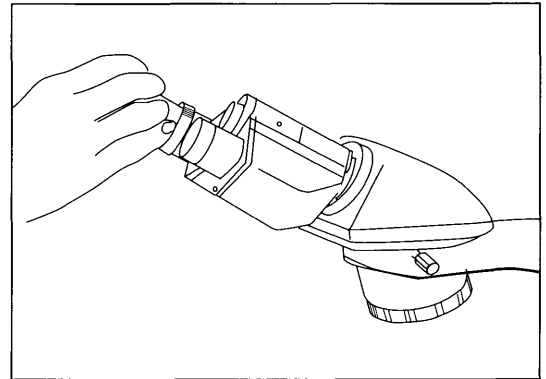

Figure 3
- Install the two eyepieces (MA817) by sliding them into the head. **The eyepieces for MT5000 Series are a DIN and JIS standard 30.0mm diameter.** (Fig.3)